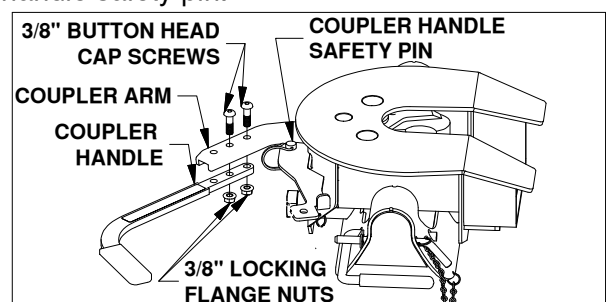

Figure E1: View looking down at side of coupler.
- Open coupler.** Locate the two 3/8" x 1-1/4" button head cap screws and the two 3/8" flanged lock nuts provided in a bolt bag. Pull out the coupler arm and pin it with the safety locking pin near the base of the arm, as shown in Figure E1.
- Secure handle.** Using the button head cap screws and the lock nuts, attach the coupler handle to the arm and tighten, see Figure E1. Pull out the coupler handle safety pin.